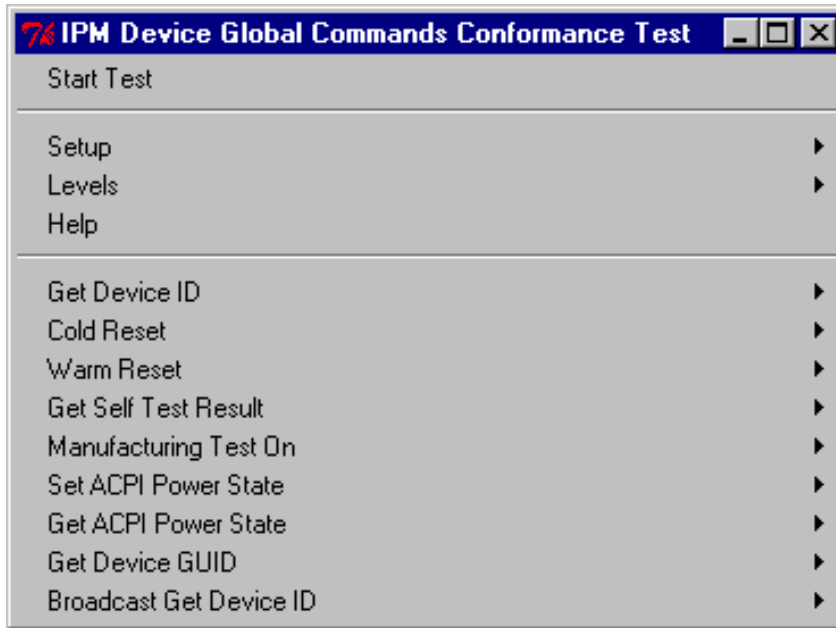

Figure 6-3. IPM Device Global Command Conformance Test Drop-down Menu
3. Select the test group you want to load. A list of the tests in the group appears. Figure 6-3 shows the list of tests for the IPM Device Global Command Conformance Test: